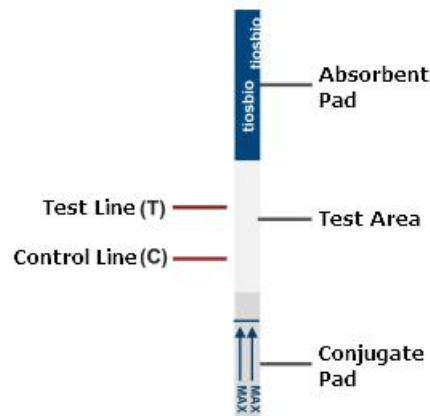

Fig 1. Schematic Diagram of Disposable Nucleic Acid Test Strip
1. Take out the required number of strips and mark the absorbent pad (Fig. 1). Each strip is for single use only.
4.Detection: Insert the Sample Pad end (arrow end) of the strip into the reaction tube containing the diluted cleavage product (>50 μL). Ensure the liquid level does not exceed the top of the sample pad (Fig. 1).